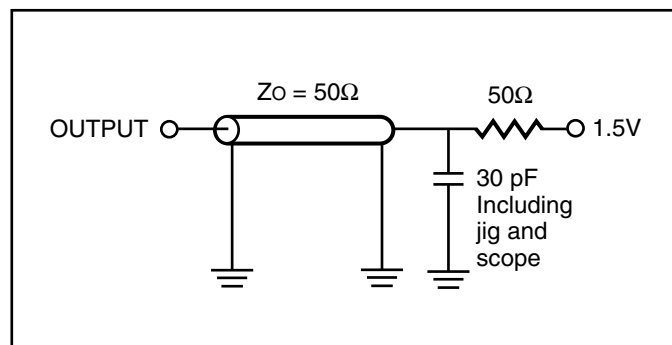

Figure 1.
| Output Load                                                  | See Figures 1 and 2   |
1. Test conditions and output loading conditions are specified in the AC Test Conditions and AC Test Loads (Figure 1).